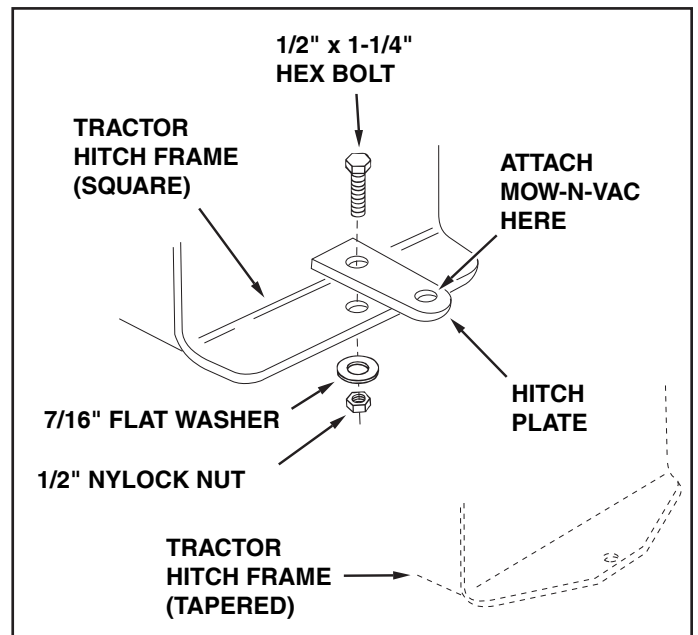

FIGURE 22
- Use a 1/2" x 1-1/4" hex bolt, a 7/16" flat washer and a 1/2" nylock nut. See figure 22.